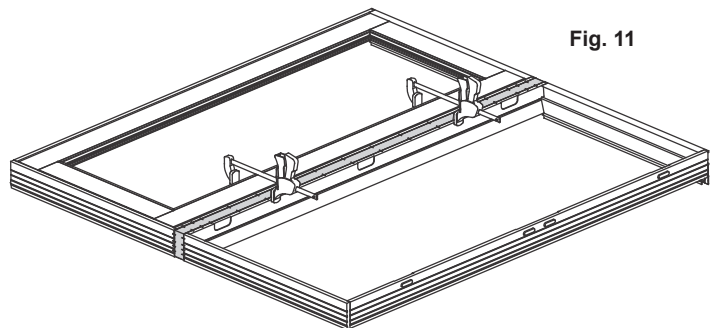

Fig. 11
10. Clamp frames together making sure interior surfaces are flush and the units are even at the mull. See figure 11. Fasten blocking to the frame as previously outlined in step 8.